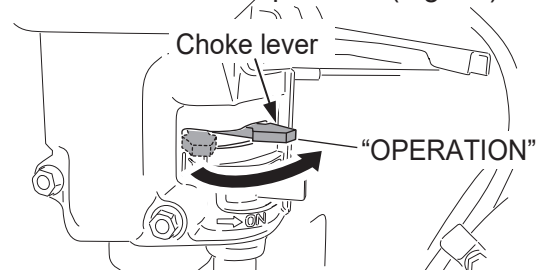

Fig.22
7. If engine has started, while listening to explosion sound, slowly return the choke lever to OPERATION position. (Fig. 22)